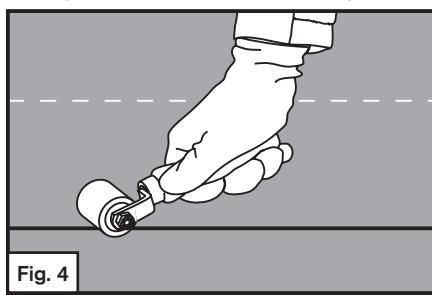

Fig. 4
**Step 9.** Roll side laps and end laps firmly with a hand roller to ensure full adhesion. See Fig. 4